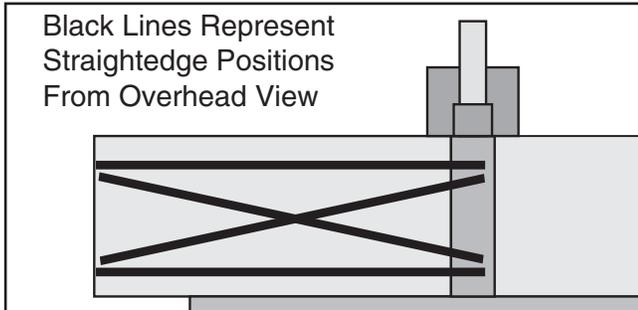

Figure 74. Straightedge positions for verifying if outfeed table is parallel with cutterhead.
- Place straightedge in one of the positions shown in **Figure 74**, and adjust eccentric bushings so straightedge touches cutterhead body while lying flat across outfeed table (a pin-type spanner wrench or small hammer and punch may be necessary to turn eccentric bushings).